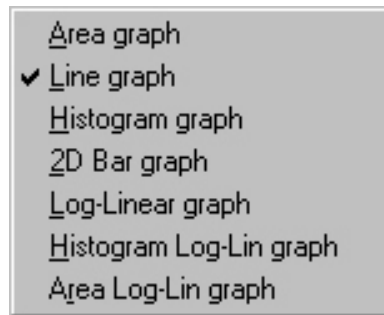

Figure 7.23 Views, Type sub-menu
1. On the **Views** menu point to **Properties** then point to **Type** on the sub-menu. A sub-menu is displayed which lists the types of graph available, see Figure 7.23.